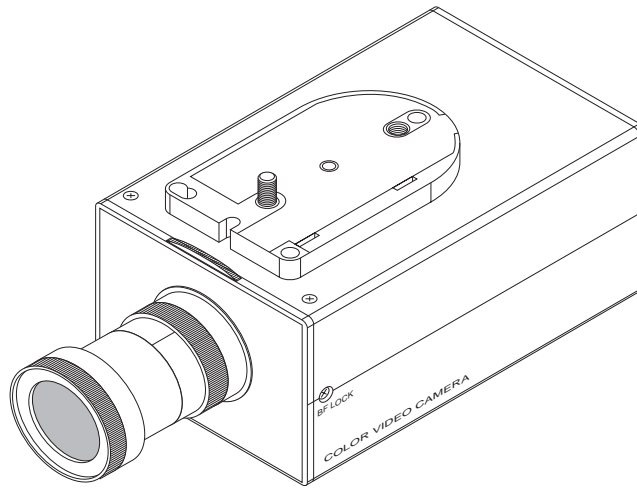
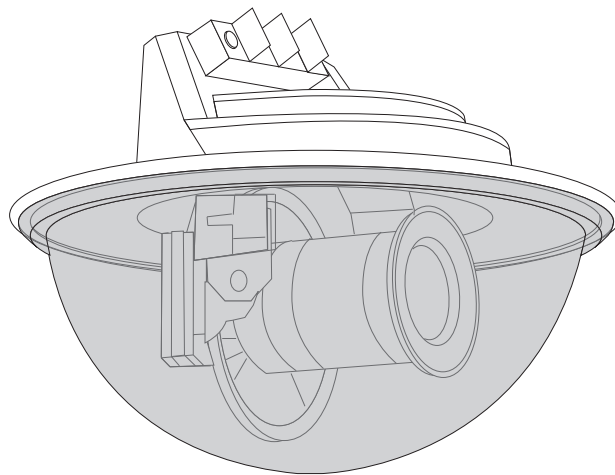

Figure 2. Standard color NTSC camera
Figure 3. Dome camera
- Up to 128 color NTSC cameras. Available as standard cameras (see figure 2 on page 15) or dome cameras (see figure 3 on page 15), these cameras monitor transactions at store point-of-sale (POS) terminals. The video signal of each camera is output to a video compression unit (VCU) for processing.